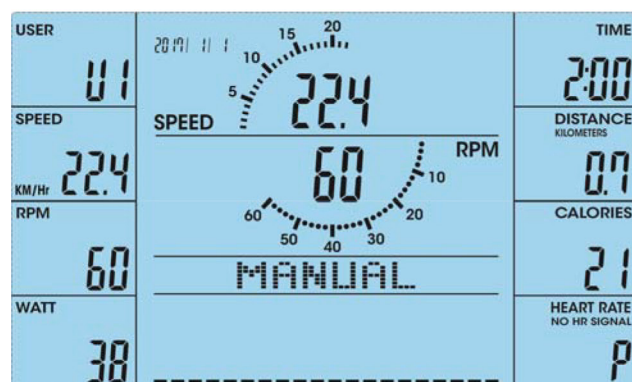

Fig. 17
8. To start the training, press START/STOP (fig. 17).